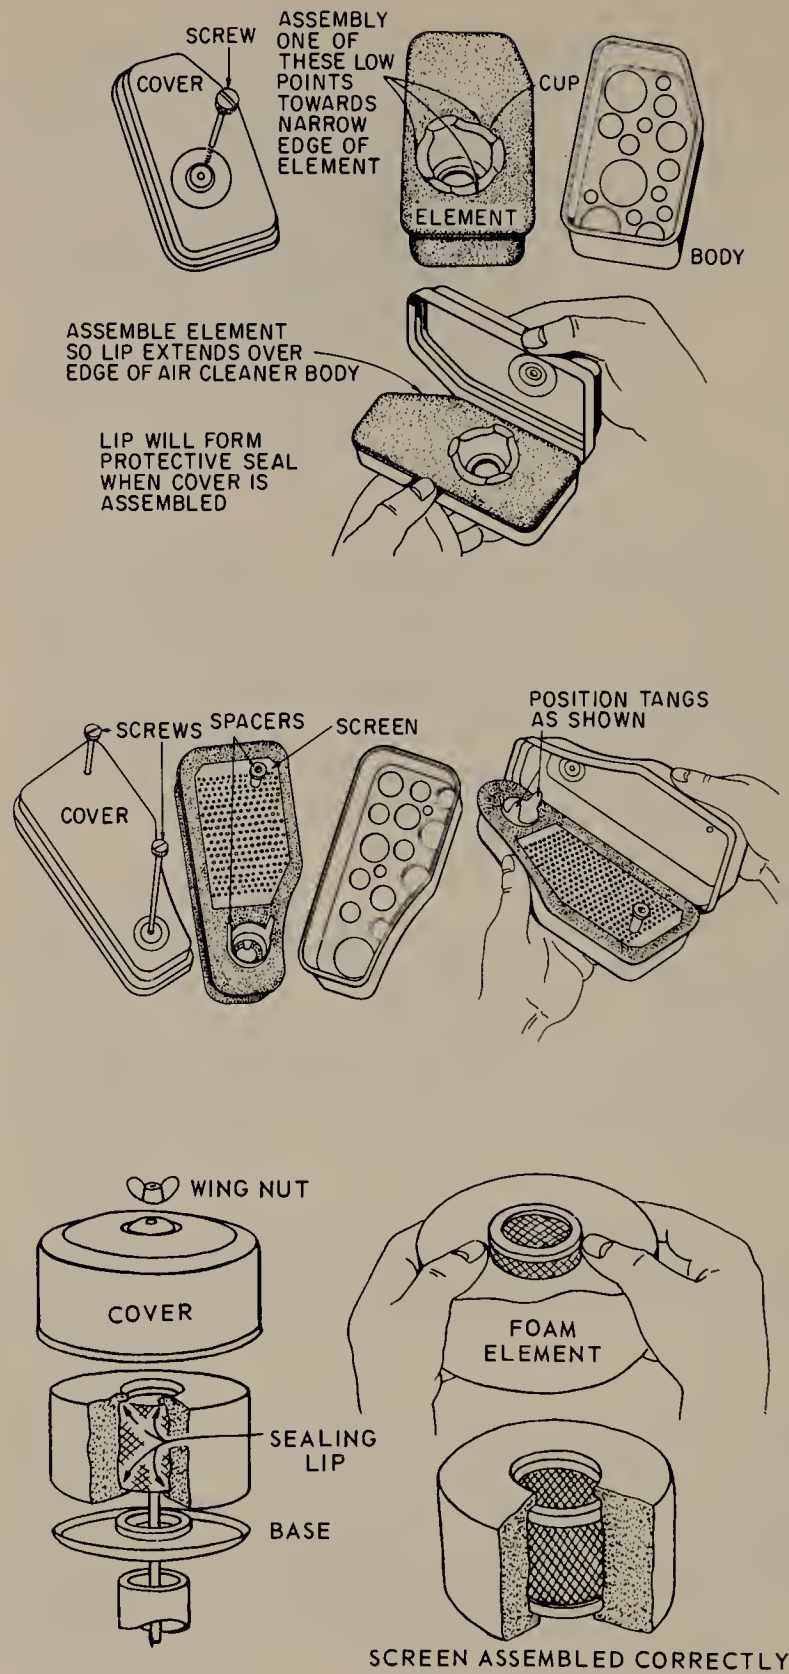

FIGURE 11.11 Typical oiled-filter air cleaners, showing how to remove the filter element from the assembly. (Briggs and Stratton Corporation.)
11.9 Oiled-filter Air Cleaner. These are held in place by a snap-on cover, a wing nut, or a screw. Typical oiled-filter air cleaners are shown in Fig. 11.11. Take off the air cleaner and filter element and wash the filter element in kerosene or detergent and water. Cover the carburetor intake. The polyurethane filter is washed by squeezing repeatedly in the kerosene or water to get out all the old oil and dirt. Then wrap it in cloth and squeeze it dry. Finally, saturate it with engine oil and squeeze it to remove the excess.